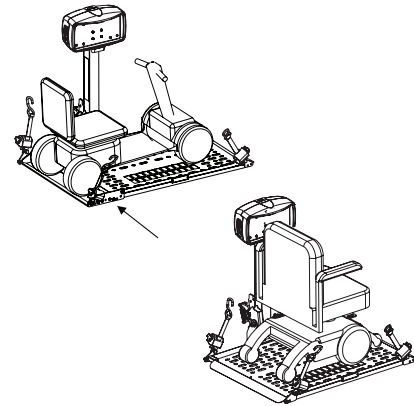

Figure 7-3
2. Maneuver the mobility device until it is positioned at the center of the platform or the drive wheels are resting within the wheel cradles, depending on the lift and chair model. **See Figure 7-3.**